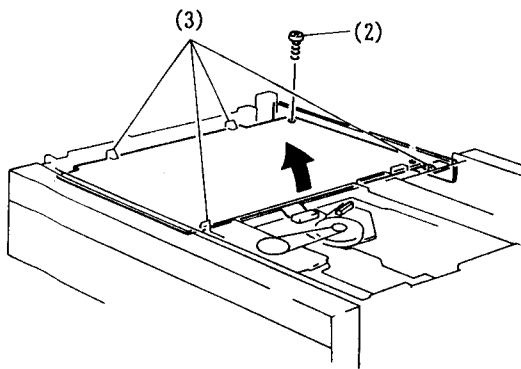

Fig. 4-5 SSA Circuit Board(I)
4. SSA Circuit Board (Figs. 4-5, 4-6)